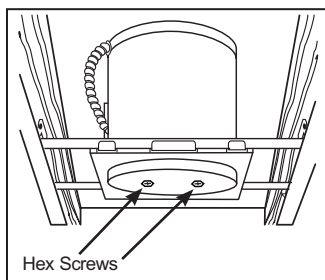
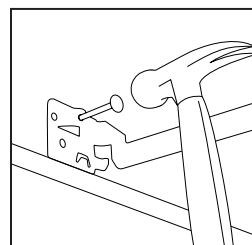

Figure 3
Figure 4
Step 1. Extend bar hangers to fit between joists. Bar hanger foot is contoured to easily align with bottom of joist (Fig. 3). Position fixture by hammering Real-Nails® into joists (Fig. 4).
Step 4. When installing in drywall, cut appropriate sized hole.* After installing drywall, if necessary, adjust fixture for ceiling thickness by loosening hex screws that attach the round housing to the plaster frame (Fig. 3).